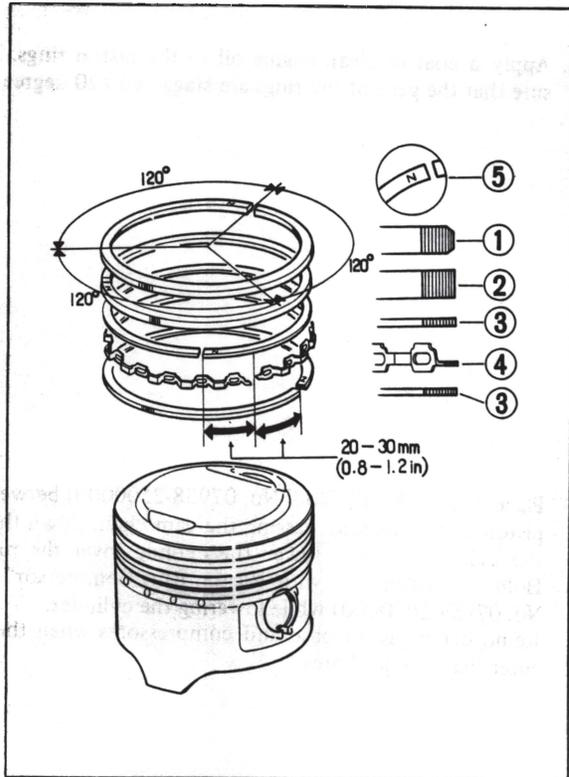
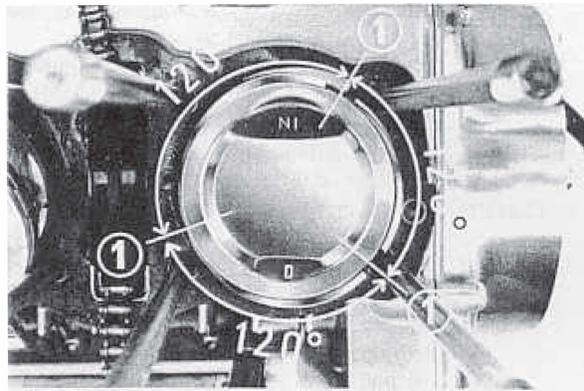

Fig. 4-34 (1) Top ring (4) Spacer
Fig. 4-37 (1) Piston ring gaps
(2) Second ring (5) Piston ring marking
(3) Rail
- The ring gaps must be staggered 120 deg. and must not be in the direction of the piston pin boss or at right angle to the pin. See Fig. 4-34 and Fig. 4-37.